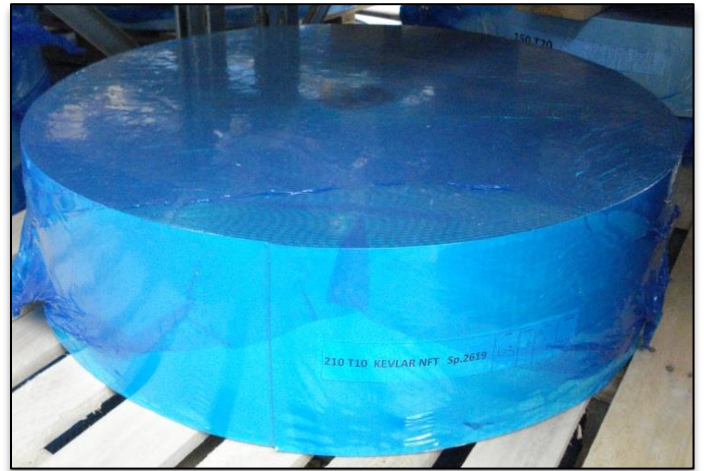

Figure 8
- Pitch > 6 mm and width > 15 mm: the belts must be covered just with a nylon layer (Figure 8).